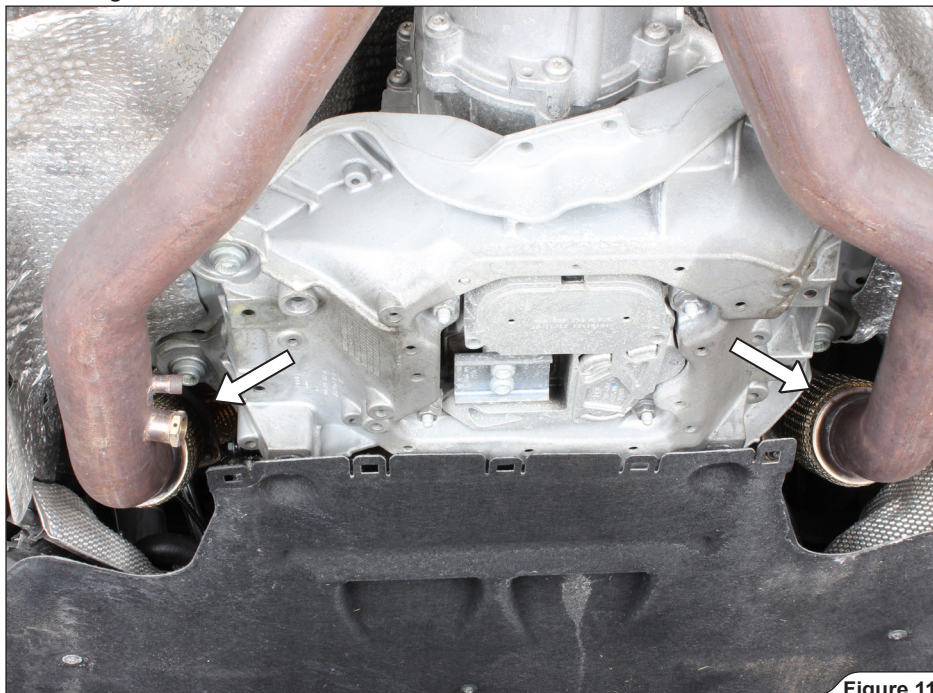

Figure 11
7. Support the link pipes, unscrew the marked flanges' nuts and carefully remove the link pipes off the vehicle (**Figure 11, 12**).